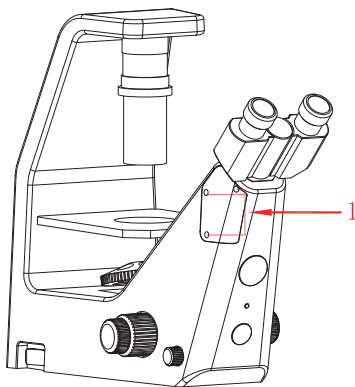

Figure 7
- 2) Take out the baffle of the microscope, as shown in Figure 7;